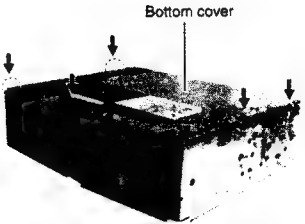

Fig. 4
- ◆ **Removing the bottom cover** (See Fig. 4)